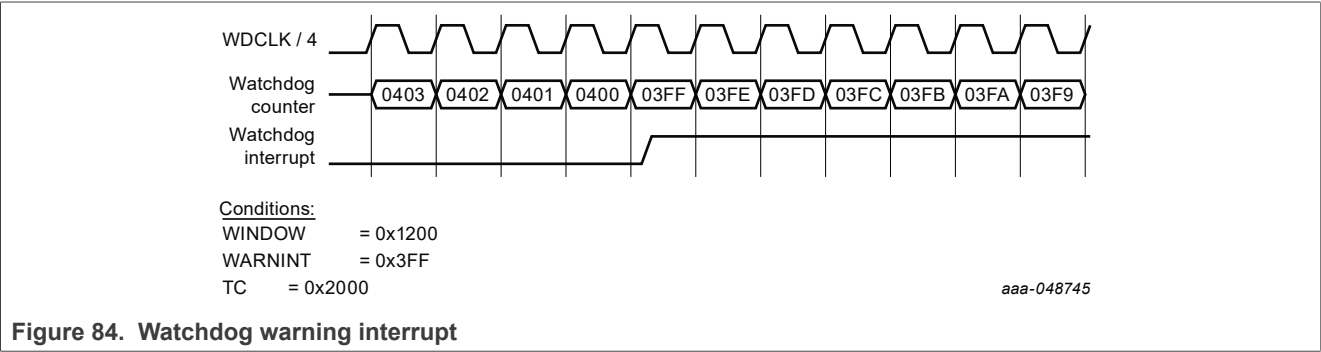

Figure 84. Watchdog warning interrupt
Figure 84 shows that a watchdog warning interrupt is raised as long as the current watchdog counter value (TV) is smaller than the watchdog warning interrupt value (WARNINT).